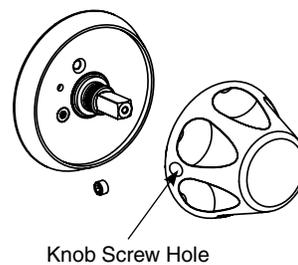

Figure 19
10. Attach inside knob by placing tightly against rose and securing set screw with socket head screwdriver. Make sure knob screw hole is oriented toward hinge edge of door. Verify lock is operating correctly prior to closing door. (Figure 19)